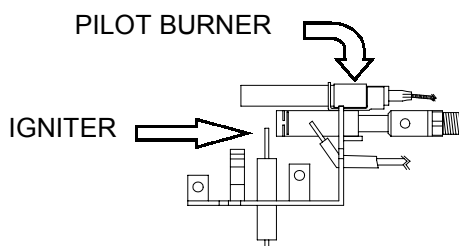

FIG. 1
3. Wait five (5) minutes to clear out any gas. Then smell for gas, including near the floor. If you smell gas, **STOP!** Follow "B" in the safety information above. If you don't smell gas, go to the next step.
4. Locate pilot (FIG. 1) by following the small metal tube from the gas control valve. The pilot is mounted on a bracket that is located and fastened behind the right side of the burner.
- ◆ **LIGHTING PILOT WITH MATCH:** Turn gas control knob (FIG. 2) to "PILOT" position. Place a lit match at the pilot burner (FIG. 1), then push the knob in. Continue to hold the gas control knob (FIG. 2) in for about one (1) minute after the pilot is lit. Release gas control knob and it will pop back out. Pilot should remain lit. If it goes out repeat the above step.